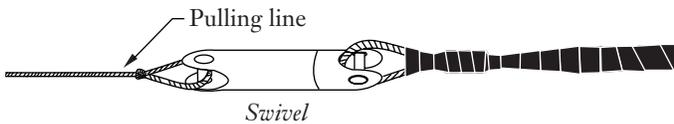

Figure 9
4.12 Connect the pulling eye to the appropriate ball bearing swivel and pulling tape or rope (Figure 9). The grip installation is now ready for the cable pull.